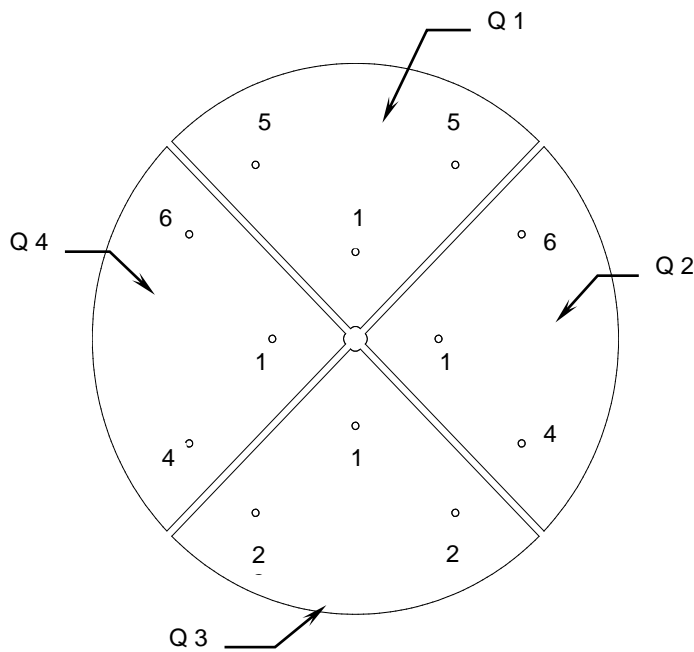

Figure 7: Threaded Insert Location Layout (Front View)
***Note that there are five different insert lengths, and the assembly requires four of number 1 and two each of numbers 2, 4, 5, & 6. Each insert must be in the correct position in each quadrant for correct assembly. The top of each insert is stamped with an insert number. The numbers shown in Figure 7, Threaded Insert Location Layout, correspond with the stamped numbers on the inserts.***